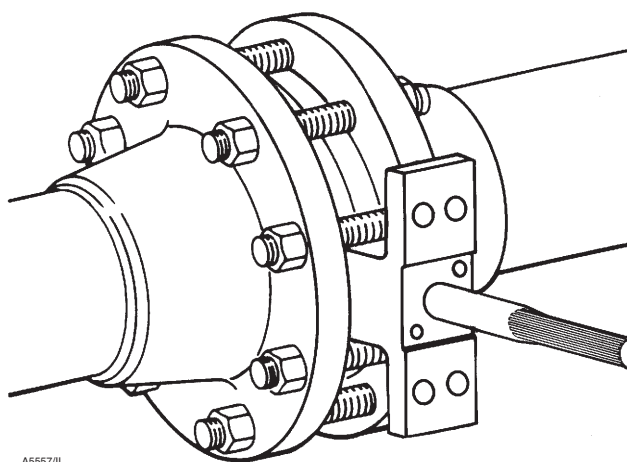

Figure 4. Installation of Wafer-Style Valves
The valve can be installed in any orientation, however it is recommended that the valve drive shaft be horizontal and the actuator vertical as shown in figure 4.
Install the valve with the high-pressure shutoff side in the direction noted by the flow arrow for proper installation, and see figure 4 for more information.
1. See figure 4 for recommended valve orientation.